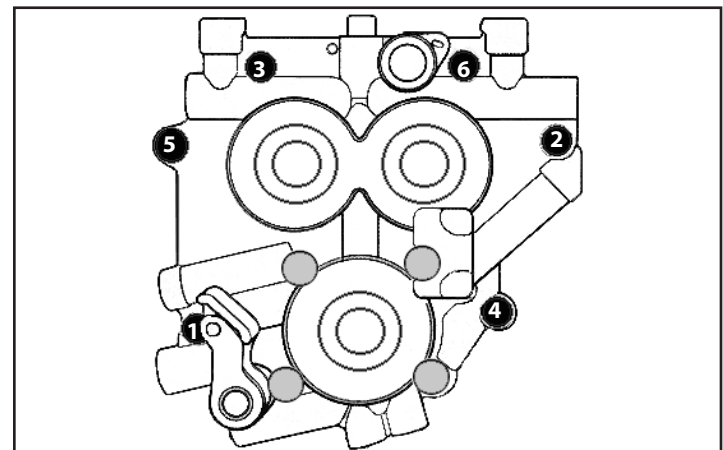

Figure 2
10. Gradually loosen and remove six support plate bolts according to sequence shown in **Figure 2, next page.**
8. Apply Loctite® 243 (blue) to six support plate screws, install screws, and gradually tighten to 95 in-lbs. in sequence illustrated in **Figure 2 on page 7.**